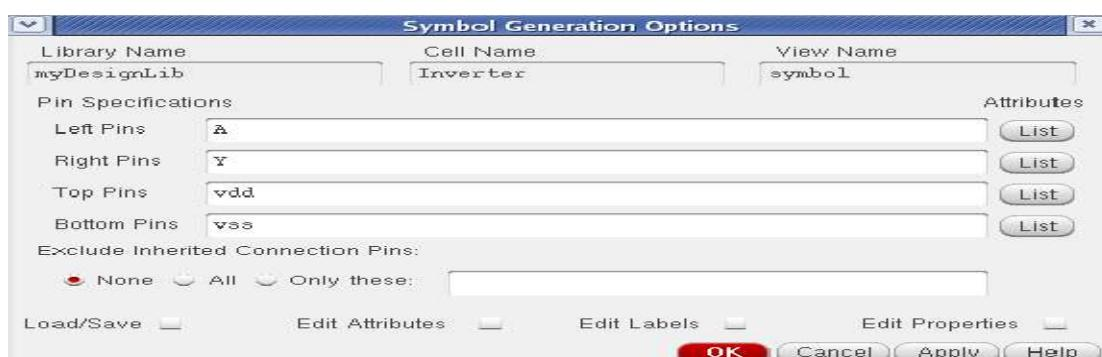

Figure 1.8: Symbol Generation Options
3. Click OK in the Cellview from Cellview window. The Symbol Generation Option appears as shown in figure1.8.
4. Modify the Pin Specifications as follows in figure 1.8.